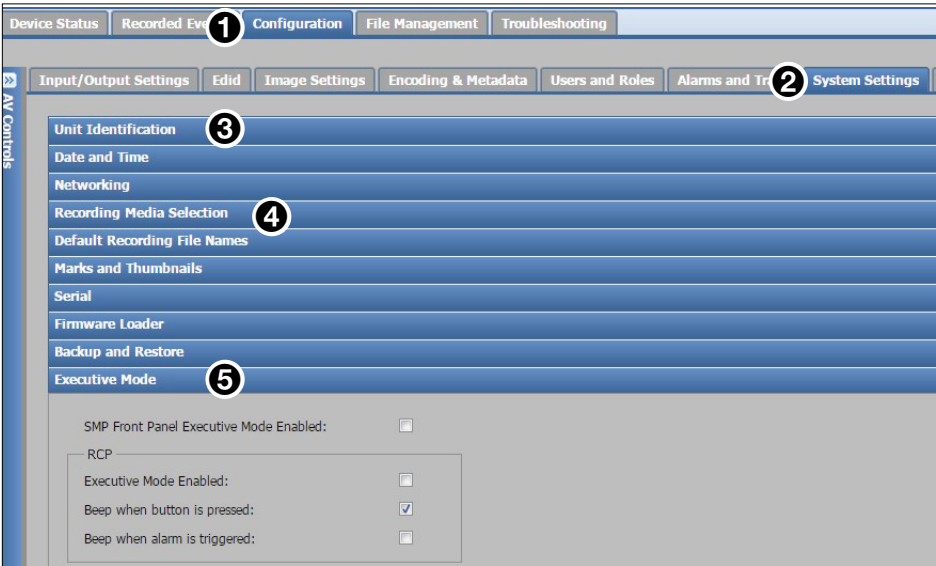

Figure 6. SMP Web Page
2. To confirm that the RCP 101 is connected to the SMP, click **Configuration** (figure 6, ❶), **System Settings** (❷), and **Unit Identification** (❸).